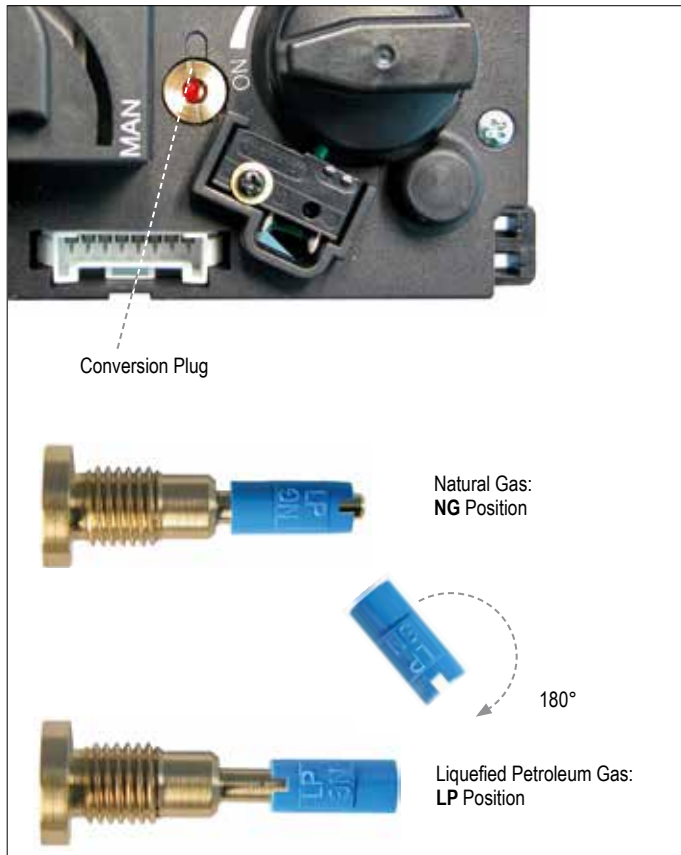

Figure 17: Conversion from one gas to another
Convertible regulators are designed to deliver either of two fixed outlet pressures for Natural Gas (NG) or LP Gas. To change from one gas to the other, turn the conversion plug (see figure 17, page 9) counter clockwise to remove. Unsnap and remove the plastic part, rotate it 180°, and then slide it back on the conversion plug until it snaps. Turn the conversion plug clockwise until it bottoms out.